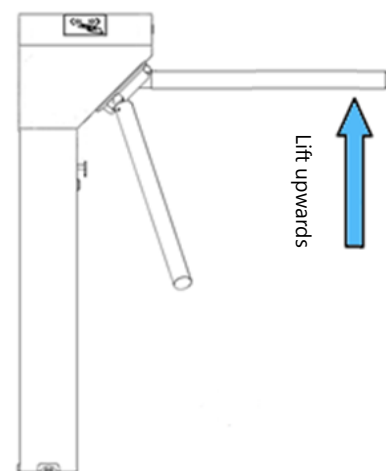

Figure 2-5
3. Lift the arms manually, as shown in figure 2-5.